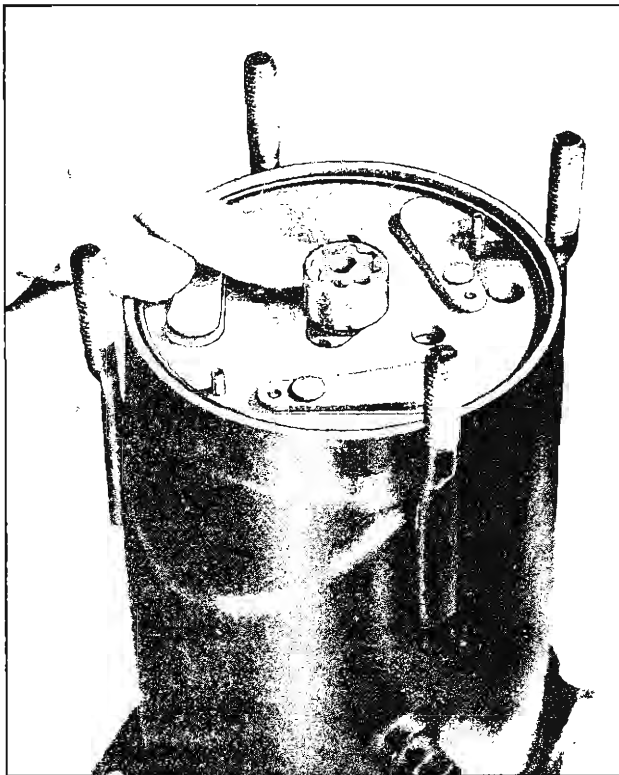

Fig. 28—Proper Oil Pump Gear Positioning
- c. Facing the centerline of the sump and viewing from the sump side (bottom) of the compressor, move the OUTER gear toward the right (side having the oil test fitting) until it is at approximately 90° (3 o'clock position) from the centerline of the oil sump (fig. 28).